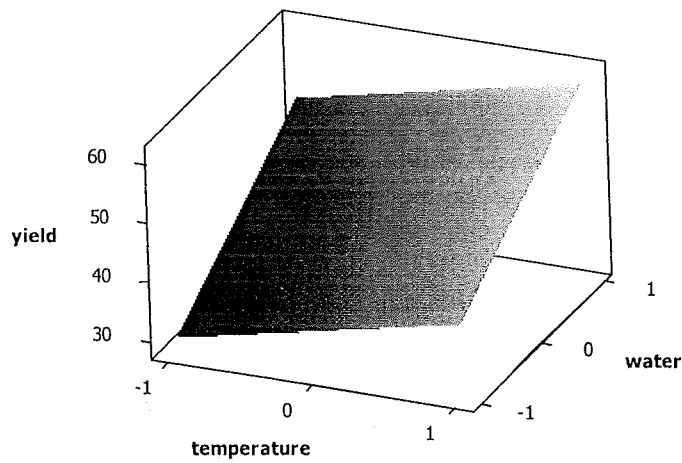

Figure 4 : Surface Plot Yield vs Water and Temperature
- [b] Use the Figure 4 Yield vs Water and Temperature information for further regression analysis.